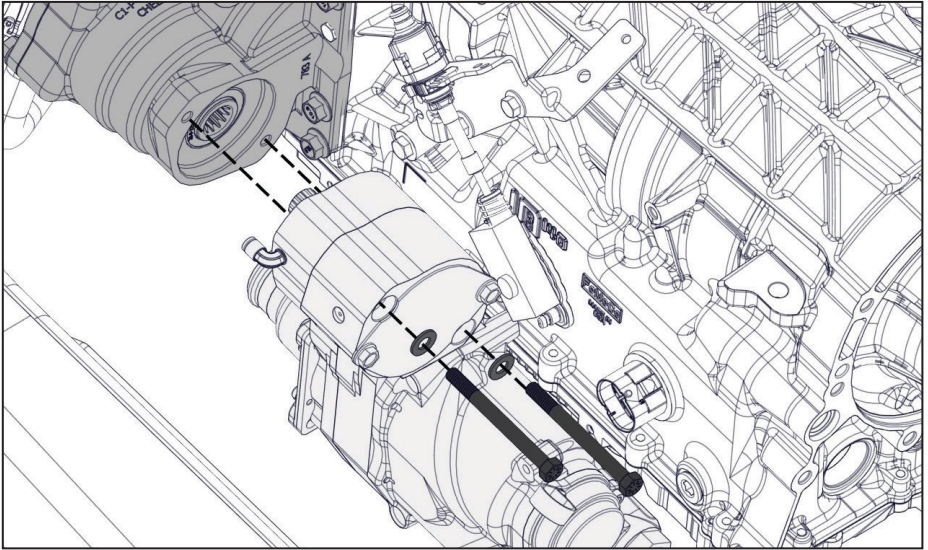

Figure 16 — Install the compressor
- ☐ Slide the compressor forward onto the PTO until it is fully mated (Figure 16).